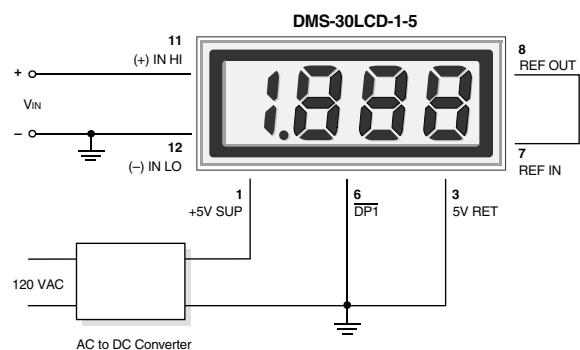

Figure 2. Single-Ended Input Configuration (5V-Powered Models)
- Single-Ended Input Configurations:** True single-ended measurements can only be made with 5V-powered meters. The circuit of Figure 2 avoids problems normally associated with ground-loop currents. Separate ground runs should be used for 5V RETURN (pin 3) and (–) INPUT LO (pin 12).